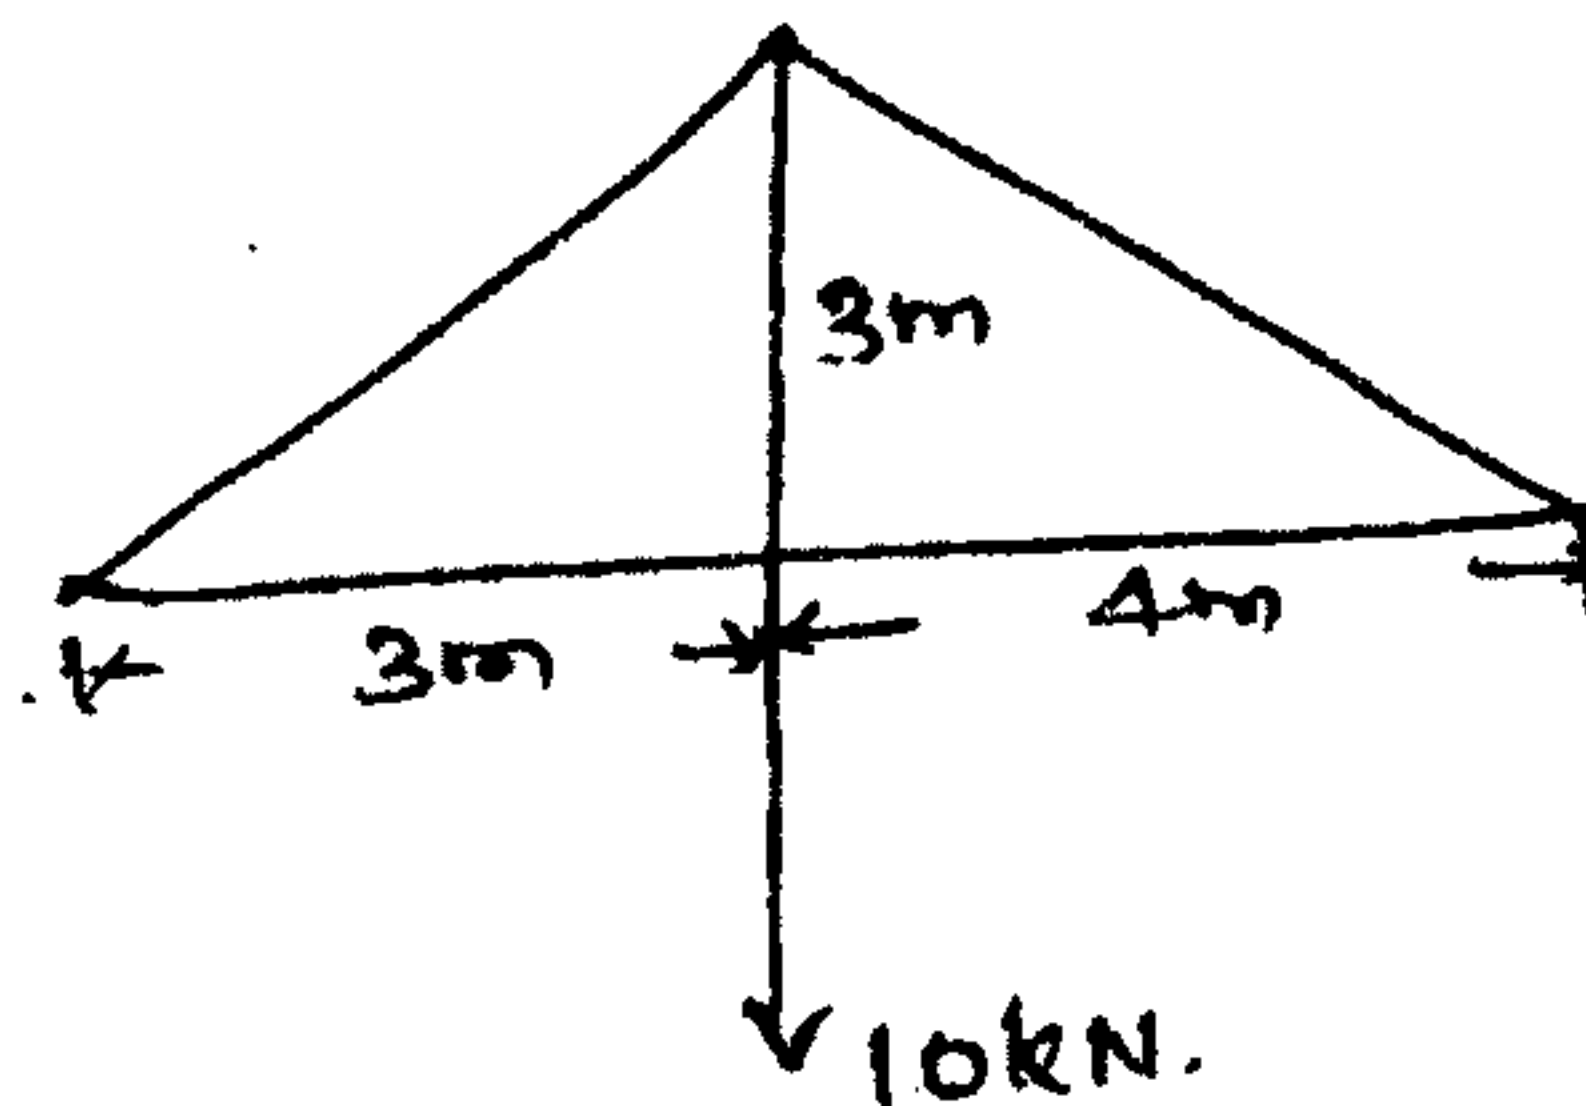

Fig. 11(b)
- (b) Determine the horizontal and vertical deflection of joint 'A' for the truss shown in Fig 11. (b). Assume  $AE=50,000$  KN for all members. Use any one energy principle.